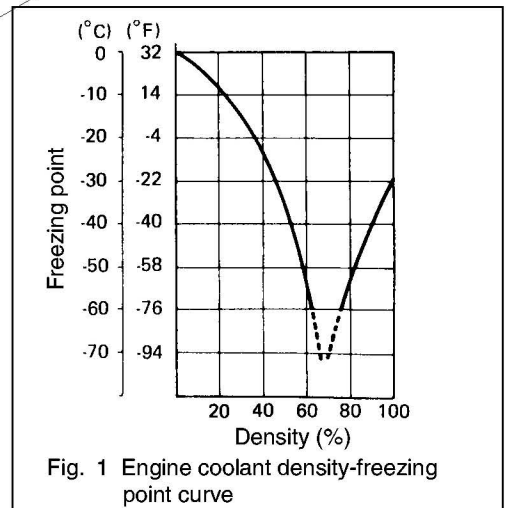

Fig. 1 Engine coolant density-freezing point curve
- * If the motorcycle is to be exposed to temperatures below -31°C (-24°F), the percentage of antifreeze should be increased to 55 % or 60 %, according to figure 1.